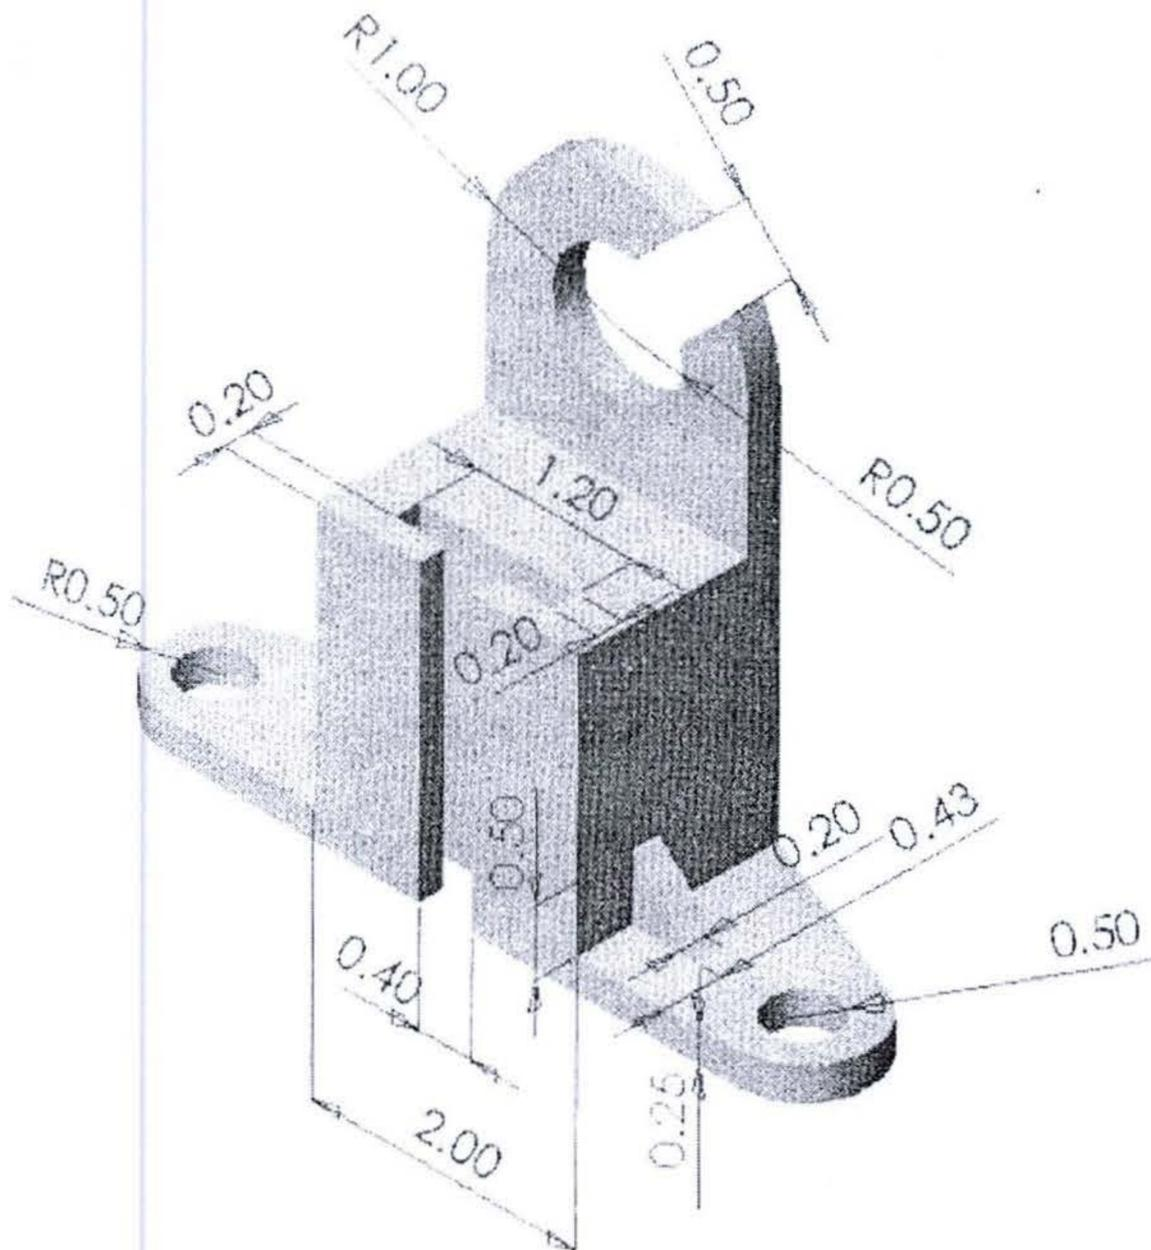

Figure QU2 Binary Tree Block
- (b) Develop the Binary Tree for the Feature shown in Figure QU2. [12]